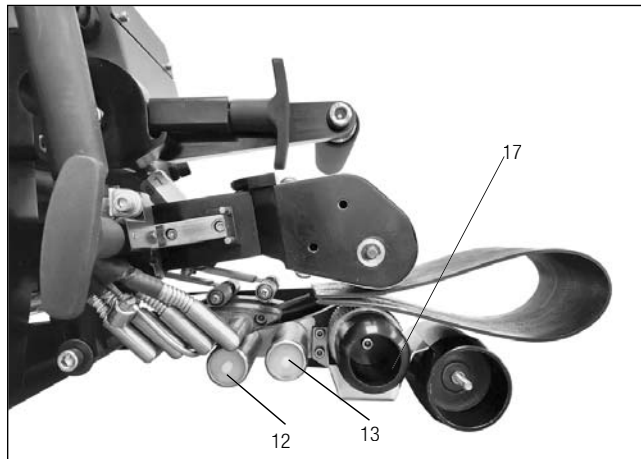

Figure 4
The lower contour rollers (#12, #13, Figure 4) are located below the heating wedge and are mounted to the lower frame directly in front of the lower nip roller. For this adjustment you will need a 13mm open end wrench and a 4mm and 6mm Allen wrench.
- With the nip pressure lever in the up position and the wedge in the disengaged position, insert the adjustment material that you cut earlier from the template into the WGW 300 as shown in Figure 4 above:
- Please pull out rubber plugs before adjusting the both rollers (#12 and #13 in Figure 4) and insert them back to original position after adjustment finished.
- Using a 13mm open end wrench, loosen the lockdown bolt (hex head) for the rear lower contour roller (#13, Figure 4). You can now adjust the height of the wedge by adjusting the rear lower contour roller up or down with a 4mm Allen wrench at the end of the roller. Once the desired position has been achieved, tighten the lockdown bolt (hex head) then check the adjustment again to make sure it did not move when tightened.
- The most important adjustment is the positioning of the wedge in relationship to the lower nip roller (#17, Figure 4). The distance between the lower tip of the heating wedge and the lower nip roller should be slightly more than the thickness of the material you will be welding. The distance is set by adjusting the rear lower contour roller (#13, Figure 4) up or down.
- Figure 4 until it just comes in contact with the material. The roller should have a slight amount of resistance as you rotate it. If you adjust it to tight it will rock the wedge and change the rear roller (#13) adjustment.
- Move the heating wedge forward or backward (left or right) so that there is plenty of clearance between the tip of the wedge and the upper and lower nip rollers. When adjusting GW 300 for welding HDPE the tip of the wedge should have the same clearance as shown in Figure 4.